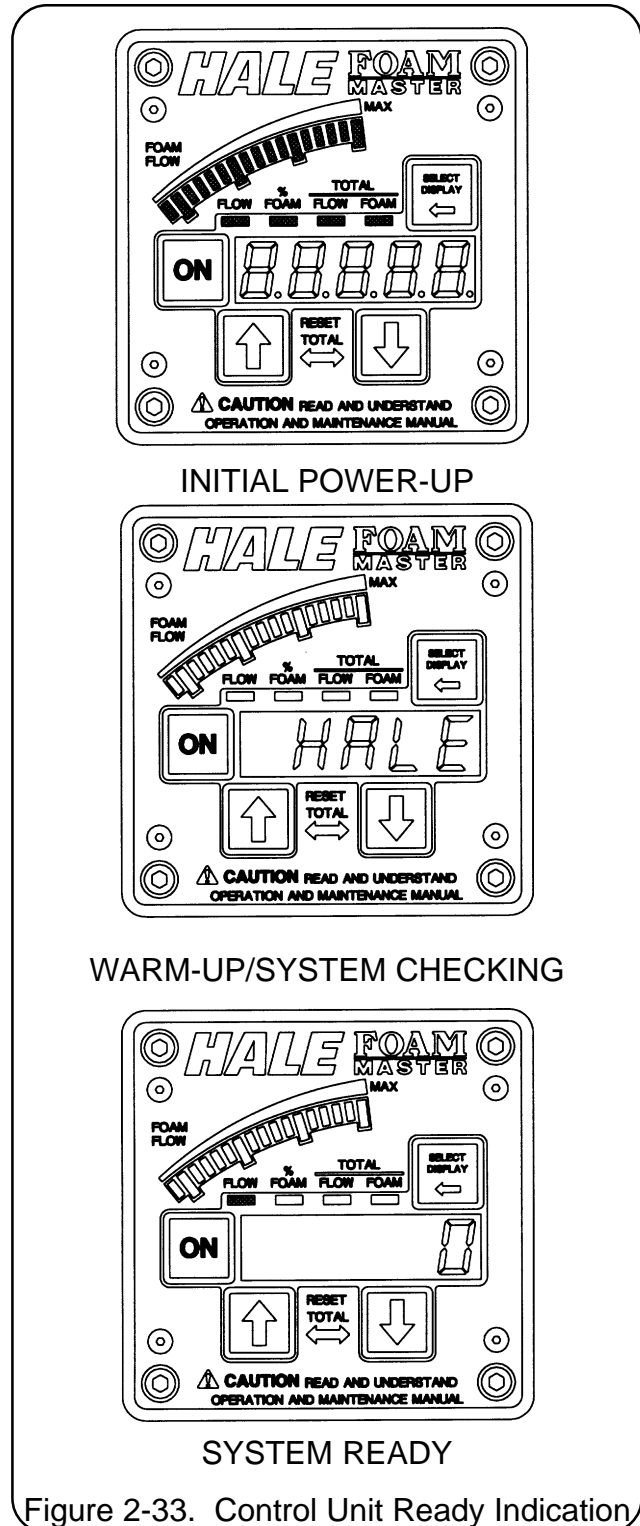

Figure 2-33. Control Unit Ready Indication
1. Determine location on panel where switch is to be mounted. Refer to figure 2-33 and layout panel cutout and mounting holes as shown.
Observe the display on the control unit while energizing the apparatus electrical system and turn the foam pump distribution box power switch to **ON**. Check the control unit readout — **FLOW, TOTAL FLOW, % FOAM, TOTAL FOAM, ON** and all bargraph LEDs will light along with "88888" for several seconds. "HALE" will then appear for several seconds while the system checks itself followed by the default display. If the Hale FoamMaster system is installed with a single flowsensor the default display is zero on the digital readout (if no water is flowing) and FLOW LED (See figure 2-33). When the Hale FoamMaster is installed using multiple flowsensors and foam discharge multiplexing display units the default display is **% FOAM**. If default display does not appear refer to TROUBLESHOOTING for possible causes and solutions.